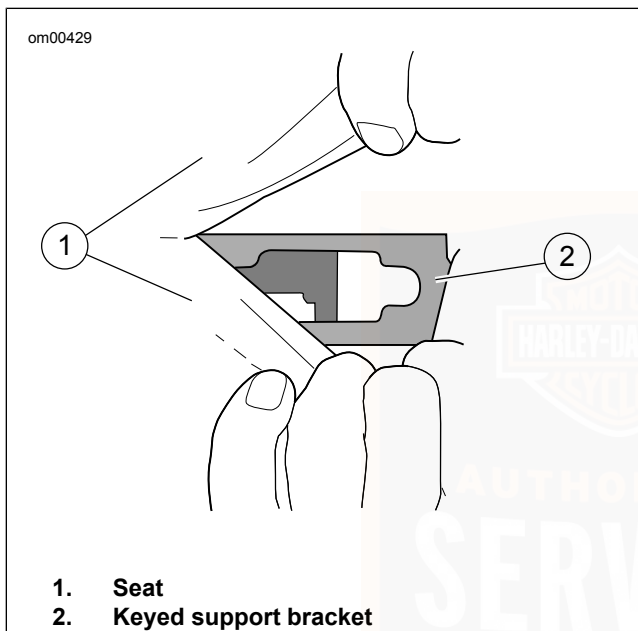

Figure 90. Rider Backrest Mounting Bracket
3. See Figure 90. Insert the support arms into the keyed support bracket. Select one of three height adjustment holes.